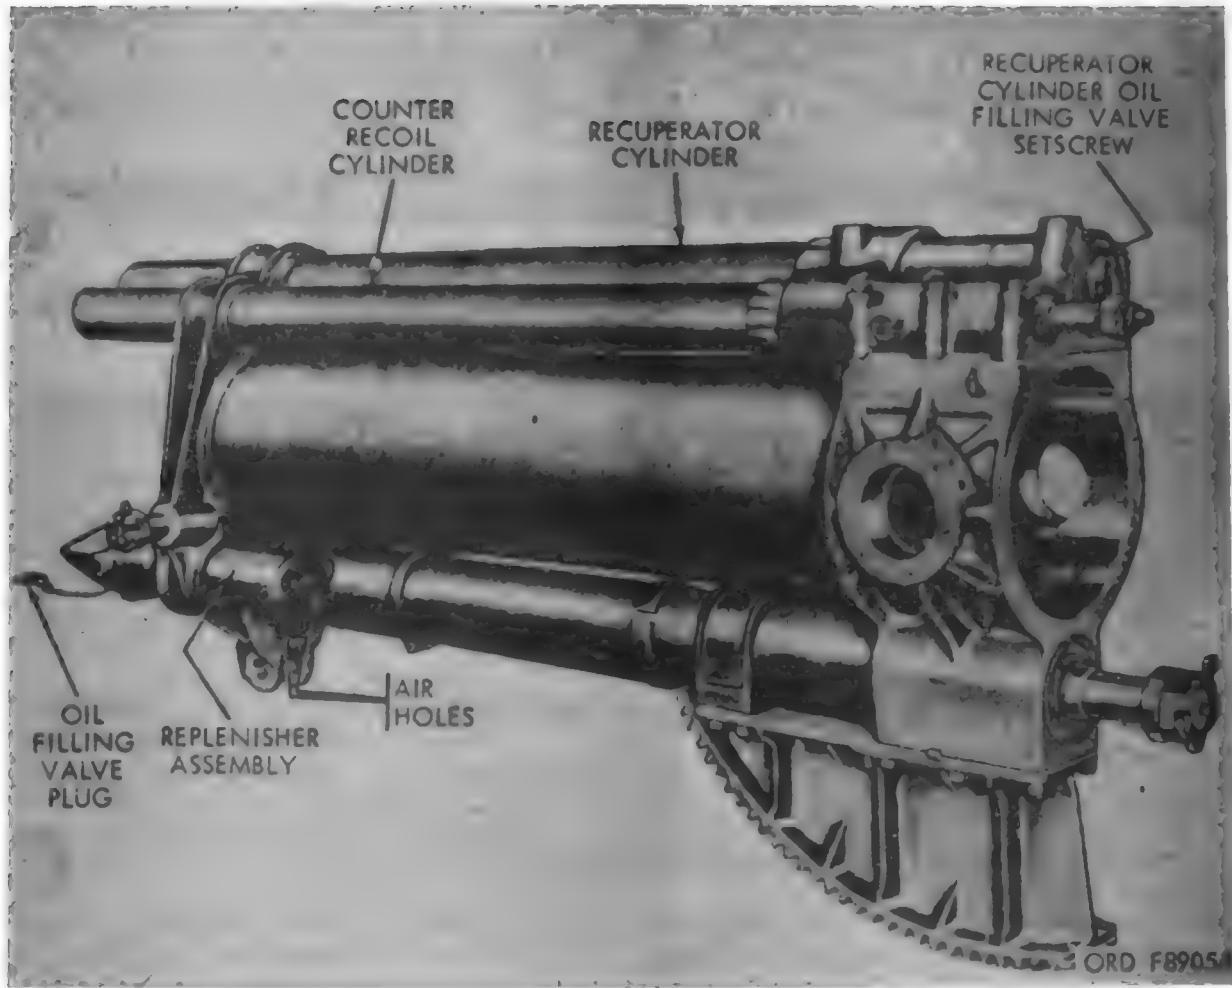
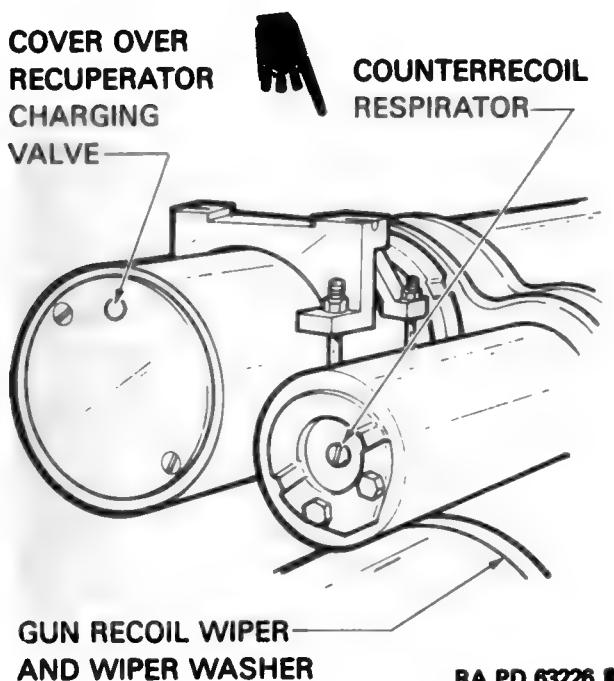

Figure 125. Recoil mechanism removed from carriage—left side view.
Figure 181. Rear ends of recuperator and counterrecoil cylinders.
(a) The replenisher (figs. 125 and 129) serves as a fluid reservoir for the recoil cylinder. It stores excess fluid forced from the recoil cylinder by expansion of the fluid due to increased atmospheric temperature or to heat developed by firing. It supplies fluid required to compensate for contraction of the fluid due to low temperatures.
(a) The counterrecoil cylinder (fig. 125) is the smaller of the two cylinders mounted above the howitzer. Its front end is closed by the respirator and is supported by, and is a slip fit in, a bore in the cylinder yoke. Its rear end is assembled in its bore in the counterrecoil and recuperator cylinder head stuffing box. The rear end of this bore is sealed by the counterrecoil rod stuffing box head,
(a) The recuperator cylinder (fig. 125) is the larger of the two cylinders mounted above the weapon. Its front end is supported in a bore in the cylinder yoke and is locked by two nuts. Its rear end is assembled in the right bore of the counterrecoil and recuperator cylinder head stuffing box. The front end of the recuperator cylinder is sealed by the front recuperator cylinder head, which is equipped with the recuperator charging valve and protected by a cover (fig. 181). The rear end of the recuperator cylinder bore of the head stuffing box is sealed by the recuperator oil index housing. This housing is fitted with an oil filling valve and plug and the oil index (fig. 180).
- (1) The recoil mechanism should be examined regularly for leakage of fluid. There is no cause for concern should the fluid drip rapidly, or even run a stream, from the rear of the replenisher when the howitzer is elevated, provided that the weapon has been at 0° elevation for some time. This condition may exist in a normal replenisher. A leak at any packing that does not exceed three drops per minute is not considered serious; if the loss of fluid is greater, report the matter to ordnance maintenance personnel.
- (2) Keep the air holes open in the rear of the replenisher piston guide (fig. 125). Use a wire to clean these openings.
- (3) When the howitzer is not being fired, check the replenisher and recuperator cylinder fluid reserves weekly (pars. 39i(1)(a), (2)(a)). If the proper amount of reserve fluid is not present, establish the proper reserve (d and f below).
(4) Failure of the weapon to return to battery or slow return to battery indicates that the nitrogen pressure in the recuperator cylinder is too low. Notify ordnance maintenance personnel.